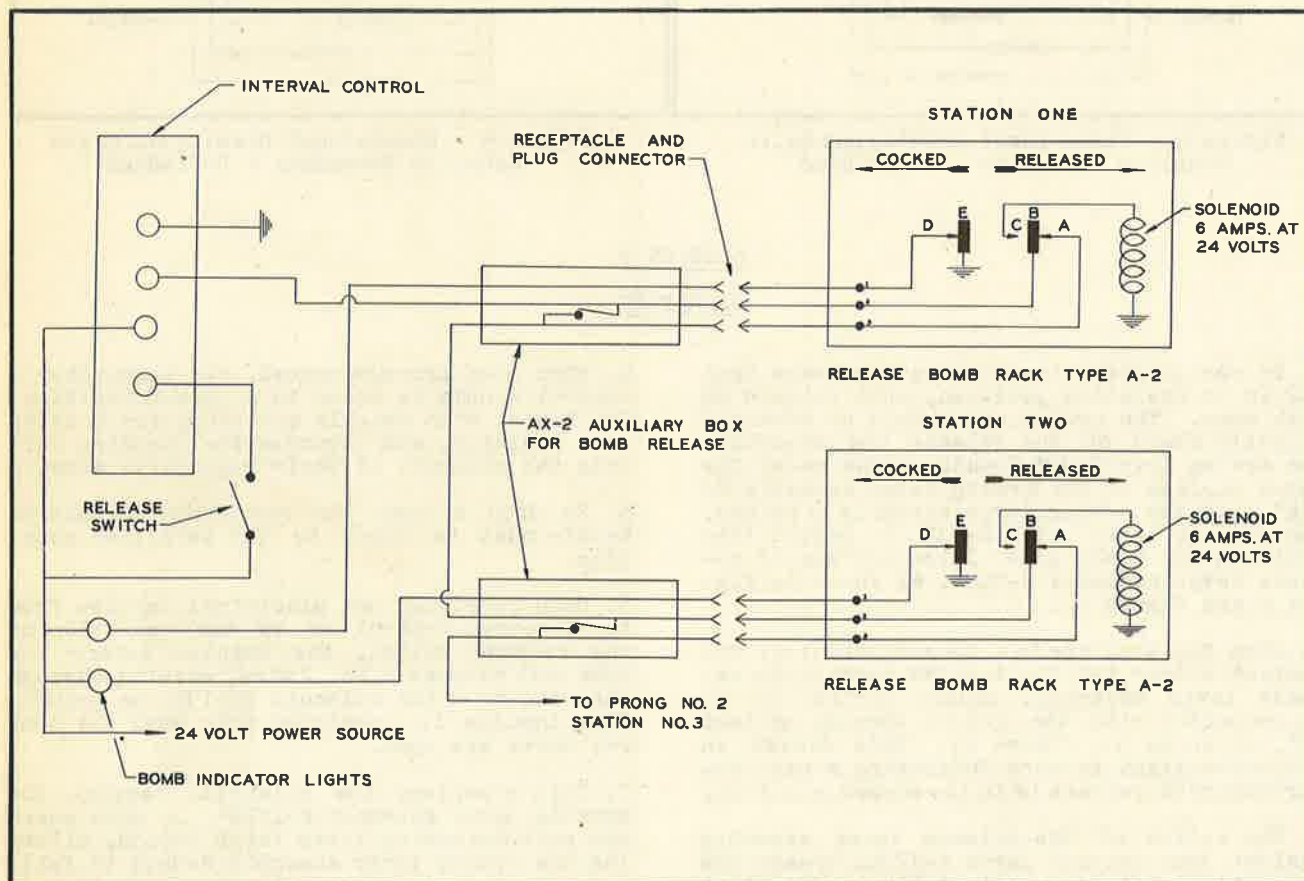

Figure 6 - Wiring Diagram
10. At the termination of the electrical impulse, the solenoid movable core moves back to normal position breaking the circuit between contact "B" and contact "C", and making a connection between contact "A" and contact "B", placing the next bomb rack release in the circuit. This completes one cycle of the bomb rack release by electrical tripping. See figure 6 and figure 15.